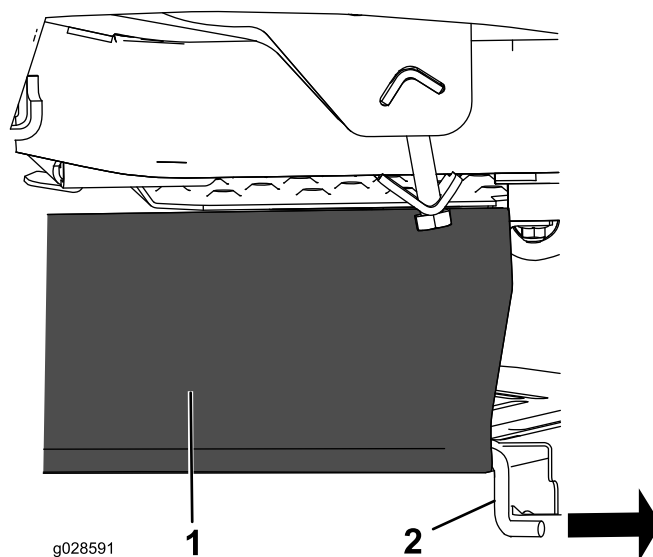

Figure 13
1. Slide the existing support rod out of the mower-deck curtain (Figure 13); retain the rod for future use of the machine without the bagger.